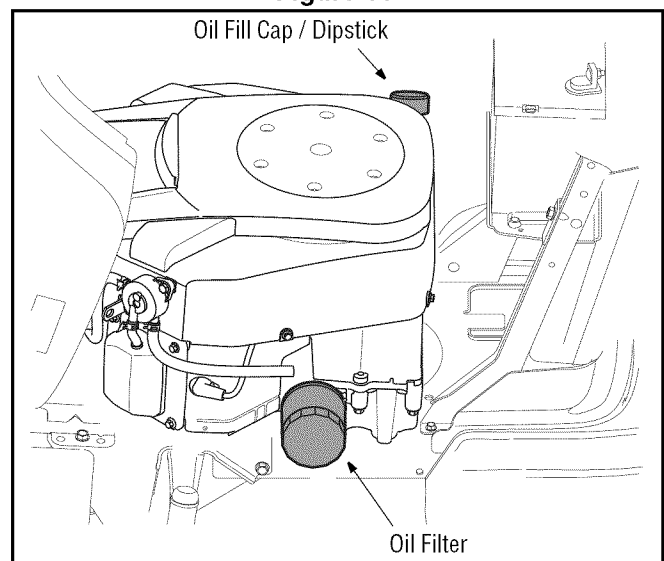

Figure 12
- Before removing the old oil filter, clean around its base to prevent debris from entering the crankcase. See Figure 12.